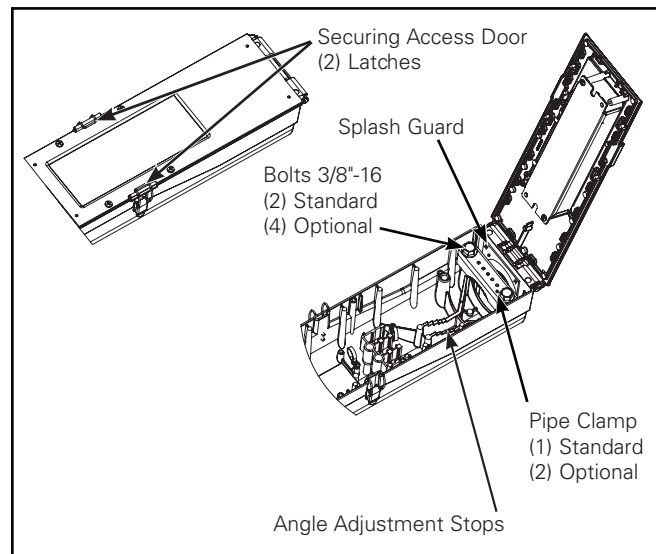
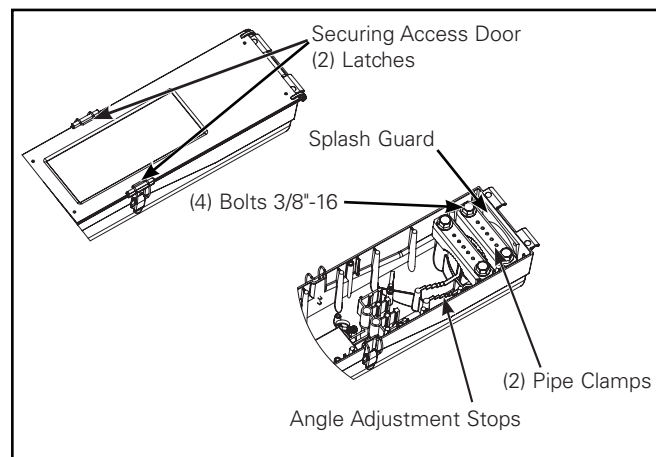
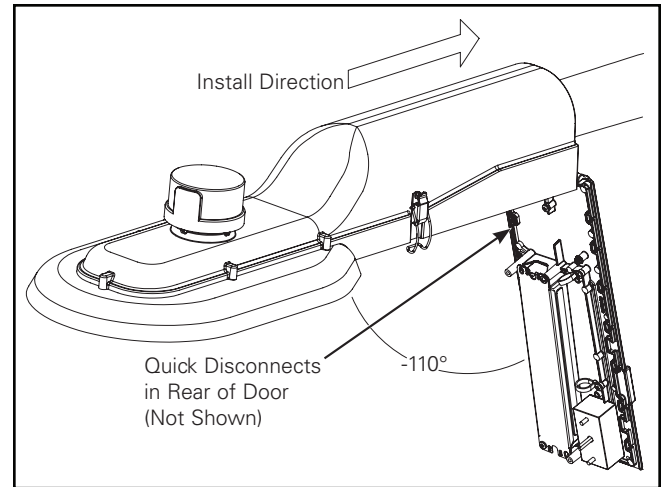

Figure 2.
Figure 3.
Figure 4.
Note: If optional lanyard is supplied, the door should not be removed. (Figure 2.)
3. Using a 9/16" socket, loosen the two pipe clamp mounting bolts enough to allow mounting arm (not included) to slide onto leveling steps. (Figure 2.)
4. Lift the housing into place and position end of mounting arm onto leveling steps so that housing is level. Care must be taken so arm does not inadvertently strike internal components. (Figure 2. & Figure 4.)
Note: If optional lanyard is supplied, the door should not be removed. (Figure 3.)
3. Using a 9/16" socket, loosen the four pipe clamp mounting bolts enough to allow mounting arm (not included) to slide onto leveling steps. (Figure 3.)
4. Lift the housing into place and position end of mounting arm onto leveling steps so that housing is level. Care must be taken so arm does not inadvertently strike internal components. (Figure 3. & Figure 4.)